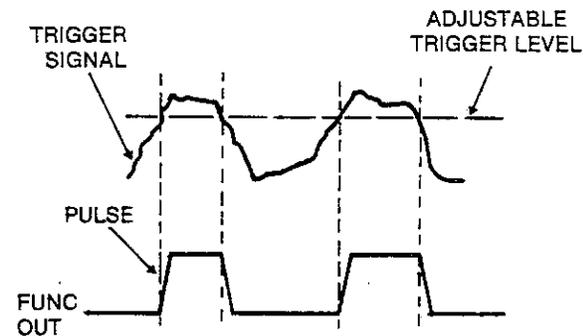

Figure 3-4. External Width
- C5** Selects external width. In external width, the output pulse period and width is fixed by the trigger signal, while output level is adjustable by normal programming (ref: figure 3-4).